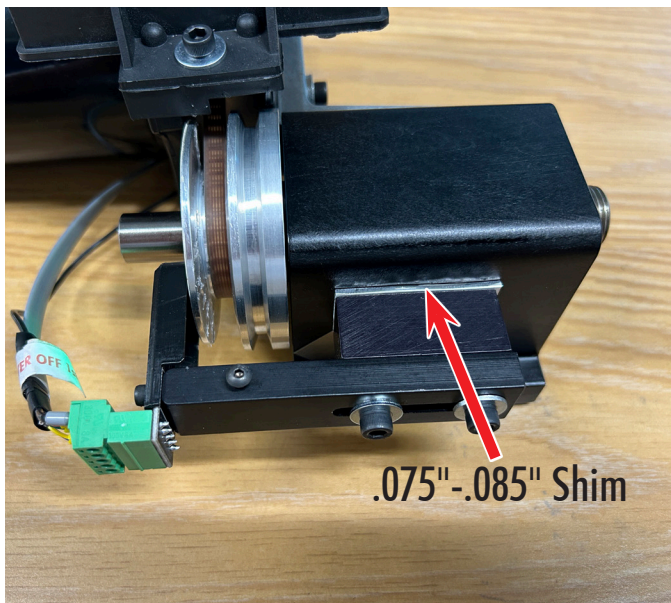

FIGURE 4—Showing the .075"-.085" shim stock installed between the headstock and the encoder headstock spacer.
4. Customers who are having a problem with their 10,000 RPM pulley with the MASSO control can either add a .075"-.085" spacer piece (or shim stock) under the existing headstock spacer (see Figure 4), or contact us for a new spacer (P/N 87816) that is .790"-.795". Then they will need to adjust the encoder gap to .055".